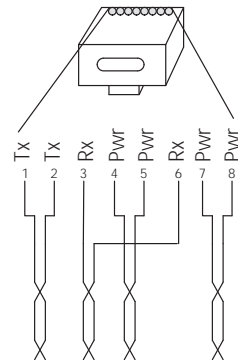

Figure 12. Connector pinning of the LAN/PoE connector, power feed over the spare cable pairs.
- Connect the cable to a RJ45 modular jack. For information on pinning, see figure 12 and figure 13.